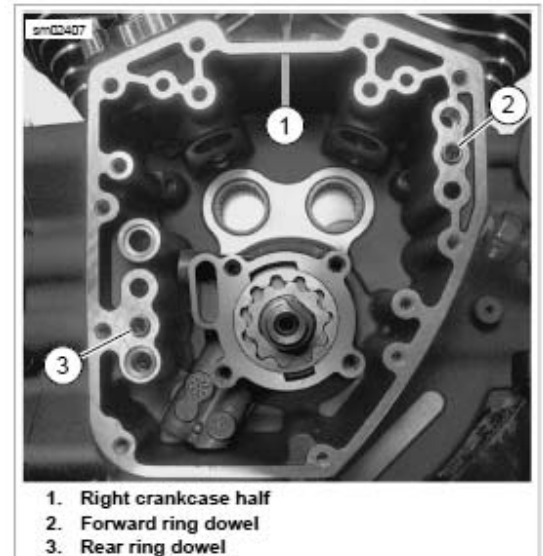

Figure 3-94. Ring Dowels
12. See figure 3-94. Slide cam support plate over crank shaft and onto two ring dowels in crankcase flange. Use a rubber mallet to fully seat cam support plate on ring dowels.